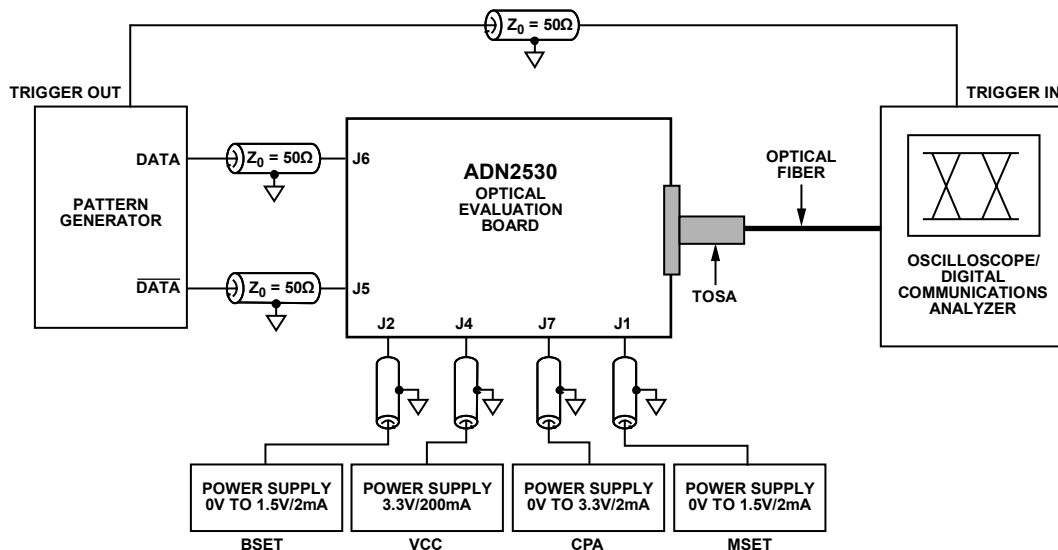

Figure 1. ADN2530 Optical Evaluation Board Test Setup
To evaluate the performance of the ADN2530, the board and the test setup must be configured as shown in Figure 1. A multimode fiber patch cord with appropriate connector for the TOSA end is required to connect the TOSA to the sampling scope/digital communications analyzer.
3. Connect the evaluation board to an oscilloscope, pattern generator, and power supplies as shown in Figure 1. A suitable pattern generator is the Anritsu MP1763B and a suitable oscilloscope is the Agilent 86100B with 86105C optical plug-in. Use coaxial cables for DATAP and DATAN of the type recommended in the General Description section.